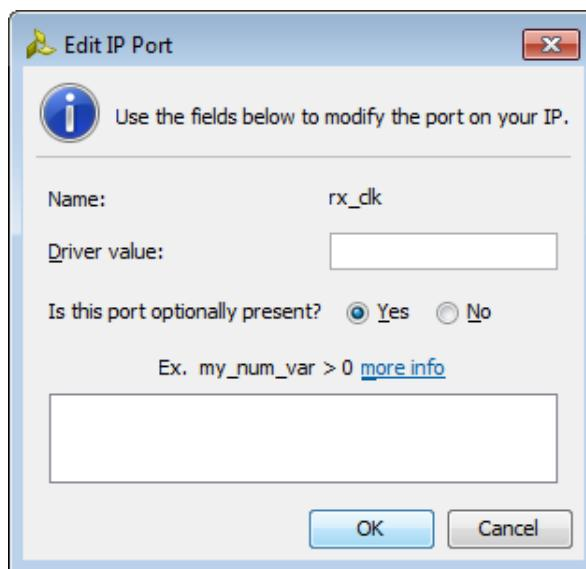

Figure 8-53: Edit IP Port with Enablement Expression Text Box
- **Is this port optionally present?:** This option controls whether the port is optionally present. When set to **Yes**, the enablement expression text box becomes visible in the dialog box (Figure 8-53).